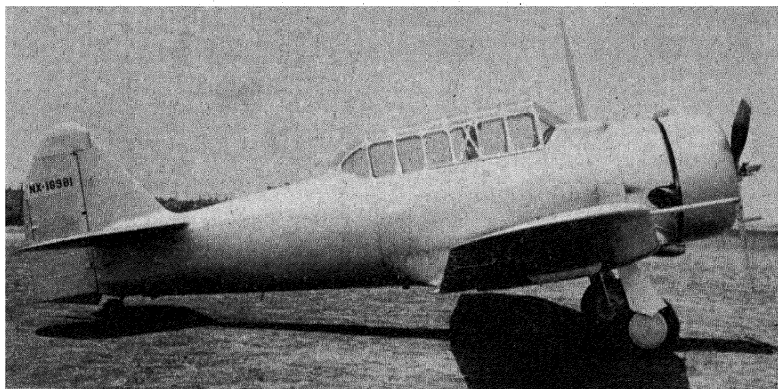

Fig. 161.—North American NA-44. (Courtesy of Aviation.)
7. The NA-44 has a wing area of  $255\frac{3}{4}$  sq. ft. and a span of 43 ft. (Fig. 161). Find the mean chord and the aspect ratio.